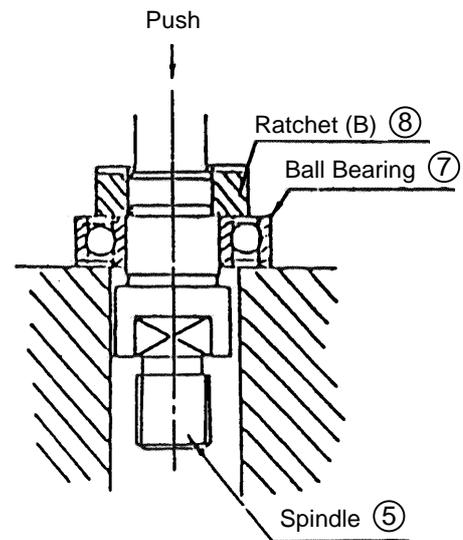

Fig. 4
- (3) Removal of Ratchet (B) (See Fig. 4):
As illustrated in Fig. 4, support the 6002DDCM Ball Bearing ⑦ with a tubular jig, and press down on the tip of Spindle ⑤ with an arbor press to loosen and remove Ratchet (B) ⑧ and the 6002DDCM Ball Bearing ⑦ simultaneously.